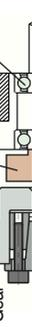

Fig.2
- Use a torque wrench to fasten bolts on opposite sides when tightening. First tighten at 1/4 of the regulated torque, then at 1/2 of the regulated torque, before finally tightening up to the regulated torque. Do not tighten without passing through the shaft, or fasten the bolts after insertion on the draft tap side. (Fig.2)